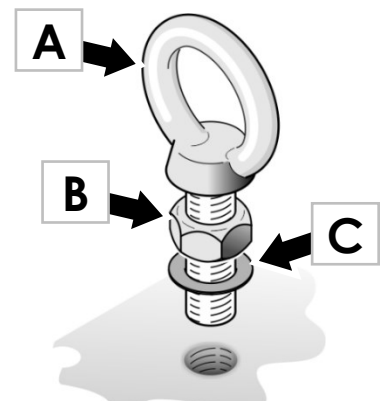

Figure 9. Installing an eyebolt
1. See Figure 9. Obtain an M10 eyebolt **A** that is approved for the weight that it will support, an M10 nut **B** and washer **C**.